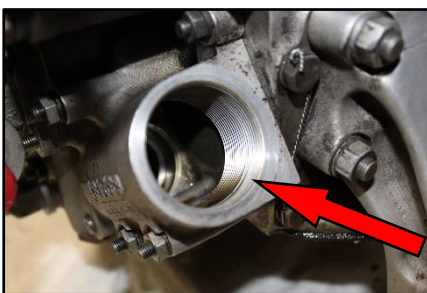

Figure 1
2. If applicable, remove the oil temperature probe and oil screen in accordance with the engine and/or airframe manufacturers' instructions. Clean the threads inside the oil screen housing. Apply clean engine oil to the oil screen housing threads, see Figure 1.